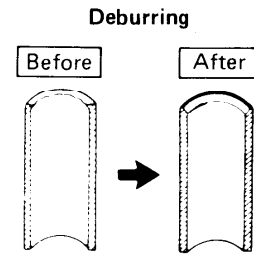

Fig. 23
- Remove burrs at the end of the copper tube with a reamer or a file. This process is important and should be done carefully to make a good flare. Fig. 23